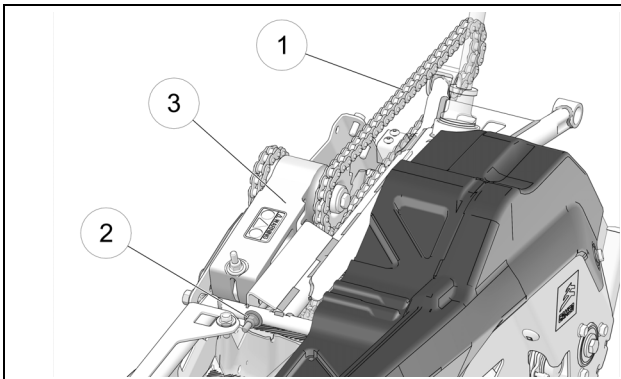

Figure 8
- Adjust the primary drive chain tension (1) by turning adjustment nut (2) at the rear of the tensioner (3) to eliminate play in the primary chain. See Figure 8.